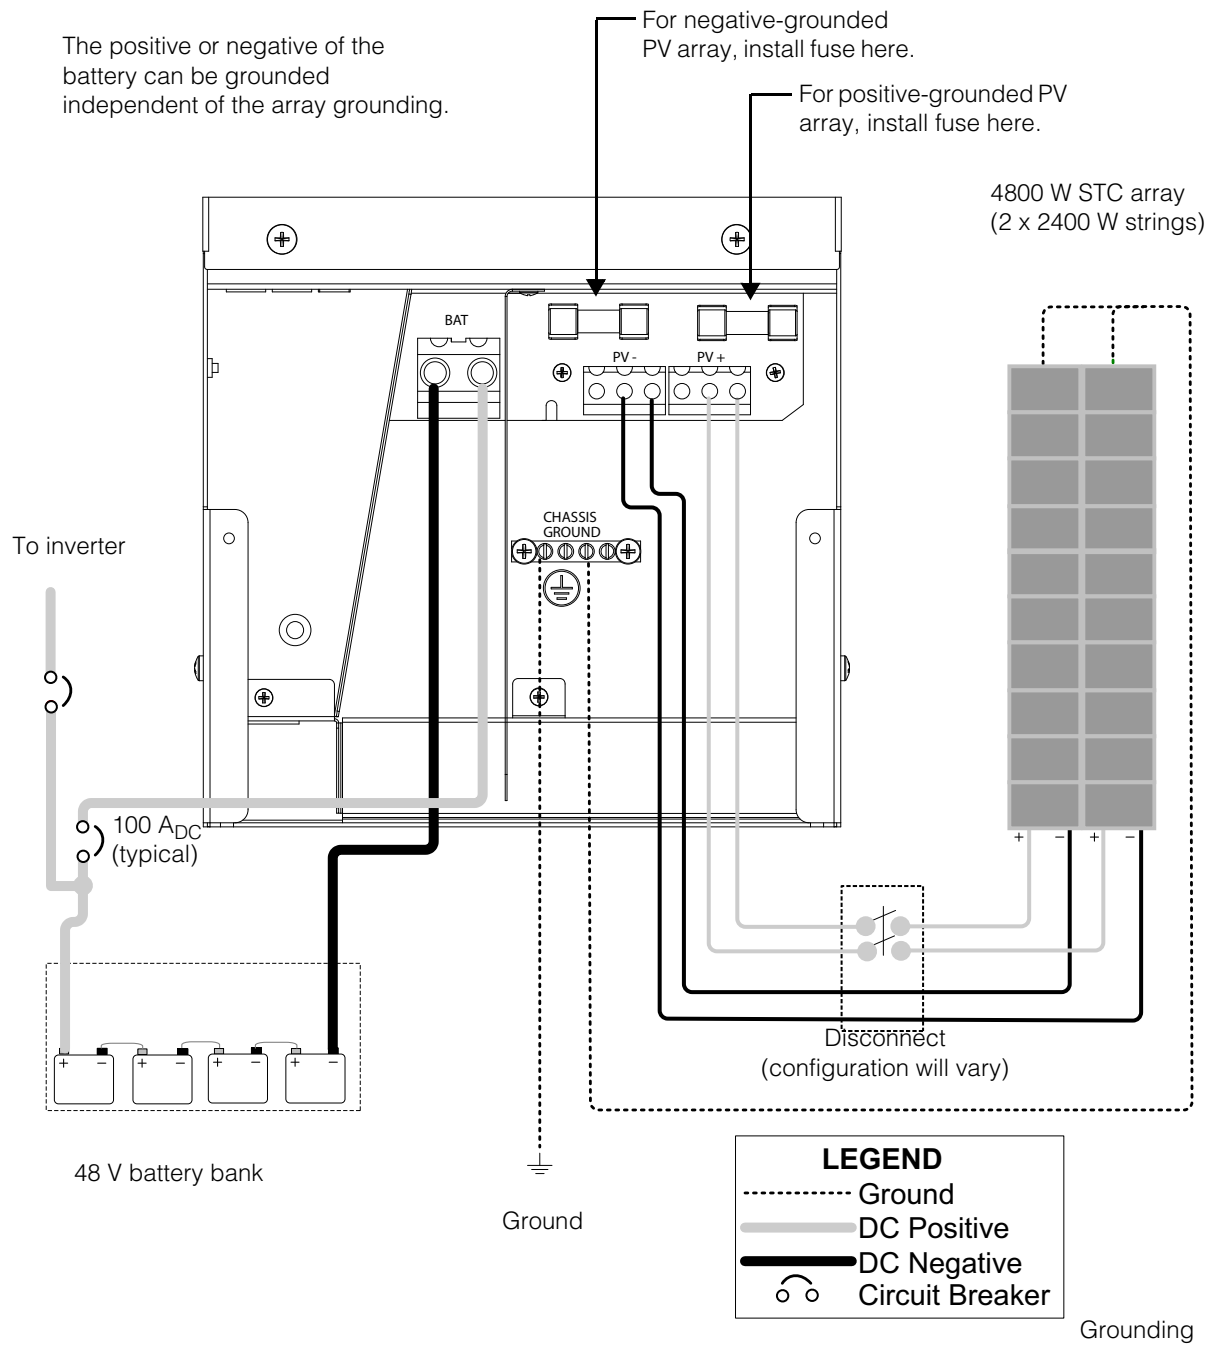

Figure 2-9 Typical Wiring Diagram for a Negative-Grounded System (48 V Battery Bank Shown)
You can configure the charge controller to be compatible with either negative-grounded, positive-grounded, or ungrounded (floating) PV arrays. For information about routing the array ground connection, see Figure 2-9.
The following procedure is illustrated in Figure 2-9.
3. Ground the charge controller: connect a grounding conductor between a charge controller ground lug and the grounding electrode (see Figure 2-9).